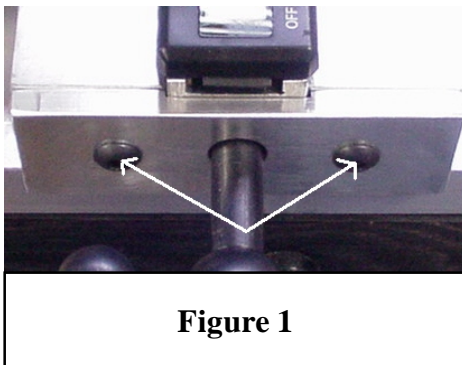

Figure 1
1. Loosen the two screws holding the depth readout (do not remove, see figure 1 below)